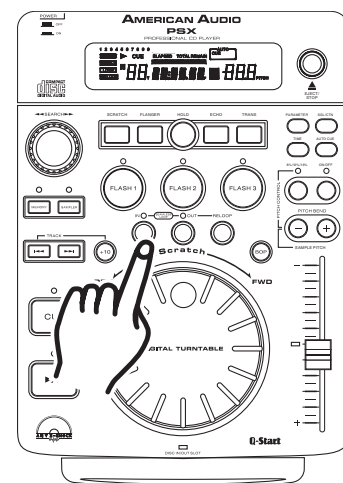

Figure 15
A cue point is the exact point playback will begin when the *PLAY/PAUSE* (15) is pressed. You may set your cue points anywhere on a disc or in a track. You may set up to four independent cue points per disk. Three cue points are stored in the *FLASH BUTTONS 1-3* (6) and one is shared by the *IN BUTTON* (12), *BOP BUTTON* (20) and the *CUE BUTTON* (13). There are two (2) ways to set and create a CUE point as detailed in figures 15 and 16